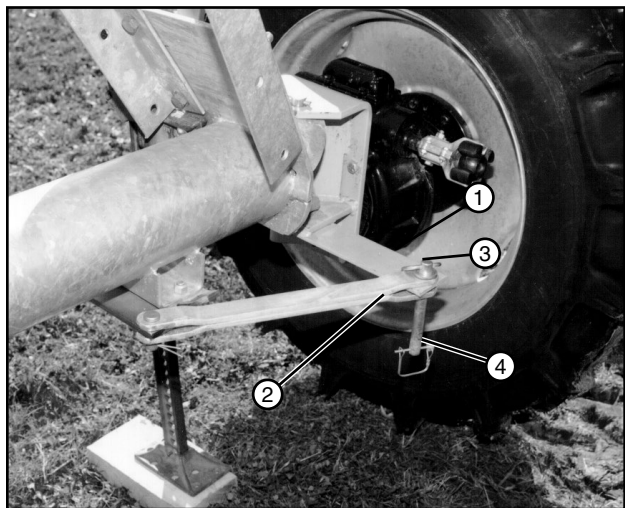

Figure 60-2 1. Steering Arm 2. Tow Link Bar Yoke 3. Torque Pin 4. Lynch Pin
2. Position steering arm in tow link bar yoke, align holes, then attach steering arm to tow link bar with torque pin. Secure torque pin with lynch pin. See figure 60-2.